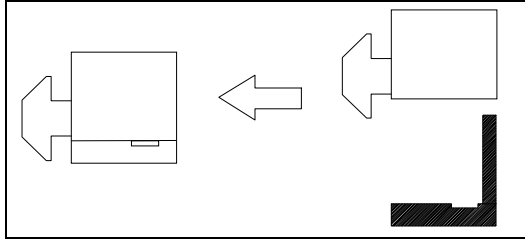

Figure 11:
- 8 Multiblocks (18)
- 4 735 mm magnetic strips (36)
- 8 90 mm magnetic strips (36)
Note that the multiblock(18) can be configured in two ways. The side panel assembly requires multiblocks configured as shown in Figure 11 (the configuration opposite of that used in the tabletop and service shelf assembly). If necessary, use a screwdriver to separate the two parts of the multiblock and reverse its orientation.